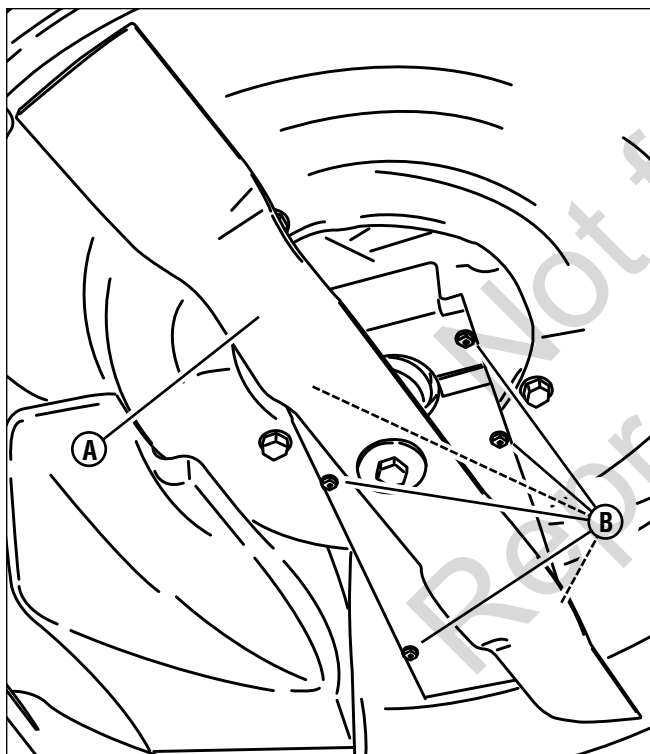

Figure 21: Removing the blade and belt cover
2. Remove the blade (**A**, Figure 21). Refer to the Section entitled "Blade Sharpening".